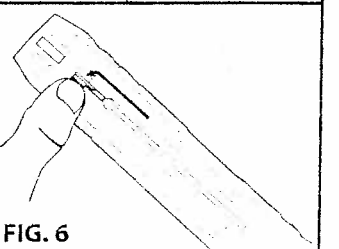

FIG. 6
2. Move the Built-in Magazine BB follower fully forward and hold in position as shown. (Fig. 6)